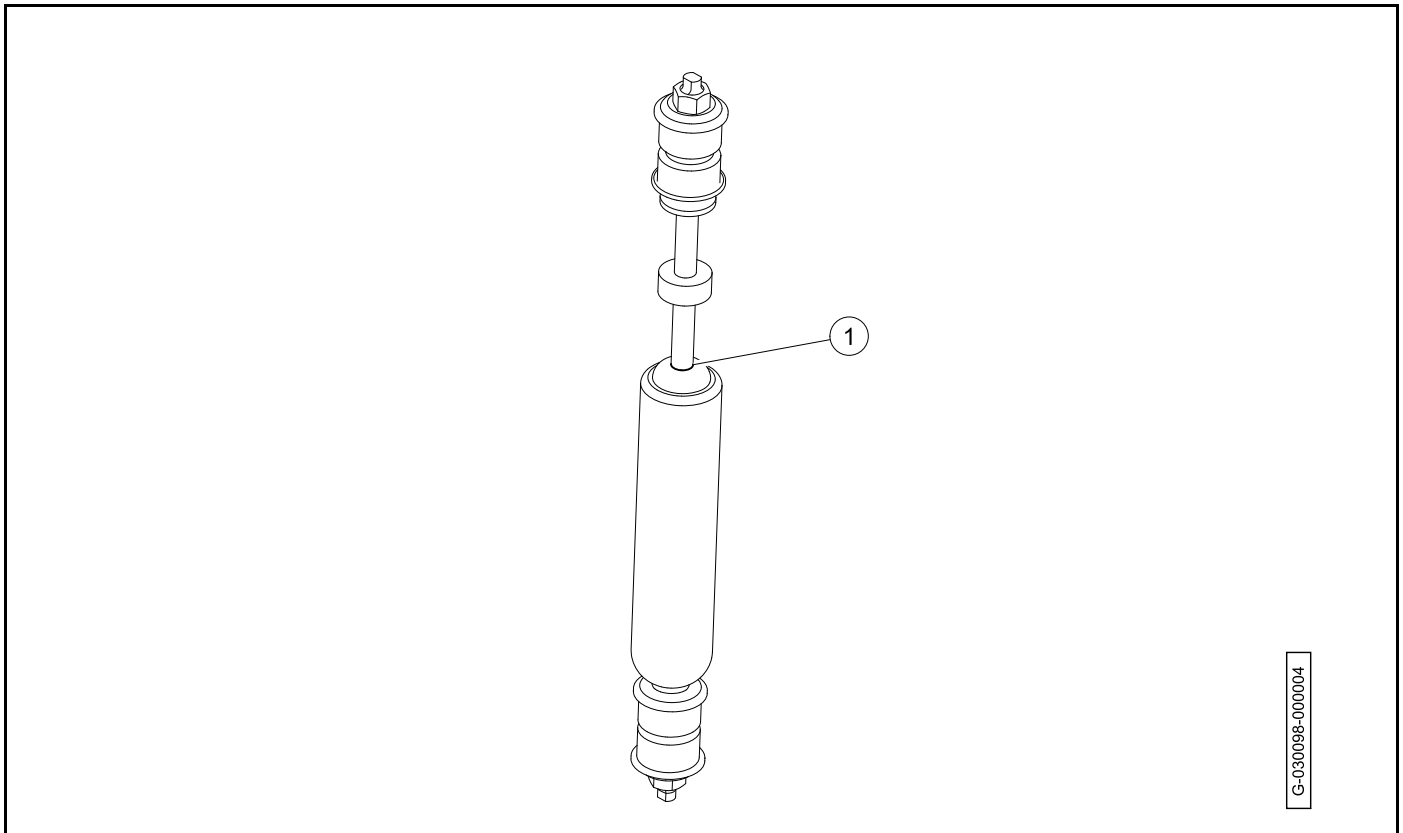

Figure 9-1 Rear Shock Absorber Inspection
Examine the area (1) where the shaft enters the shock absorber body (**Figure 9-1, Page 9-1**).